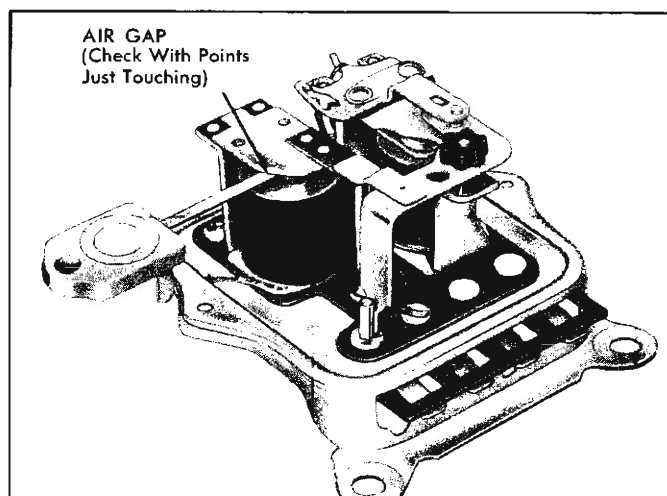

Fig. 21c—Checking Field Relay Air Gap
2. Air Gap: Check the air gap with the points just touching (fig. 21c). The air gap normally need not be adjusted. If the point opening and closing voltages are within specifications, the relay will operate satisfactorily even though the air gap may not be exactly according to specifications. If adjustment is necessary, bend the flat contact spring.